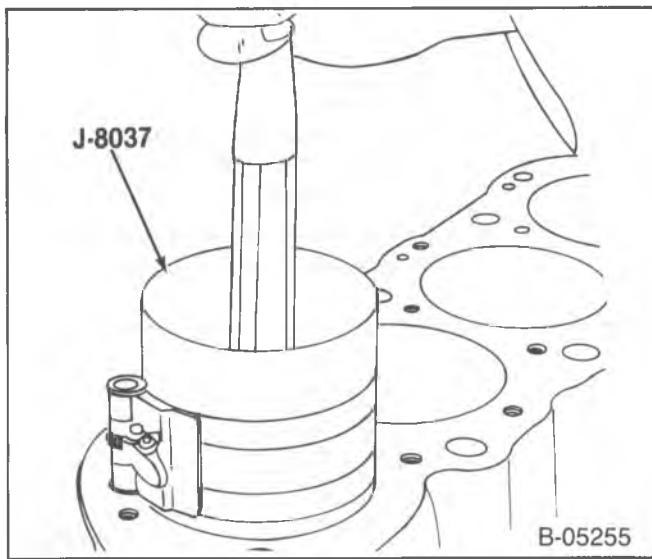

Figure 55—Installing the Piston
- Without disturbing the ring end gap location, install J-8037 over the piston (figure 55).
- Place the piston in its matching bore. Using light blows with a hammer handle, tap the piston down into its bore (figure 55). At the same time, guide the connecting rod into piston on the crankpin, using the J-5329 Guide Tool. Hold the ring compressor against the block until all rings have entered the cylinder bore.
- 3. Connecting rod cap (110) with the lower connecting rod bearing insert.